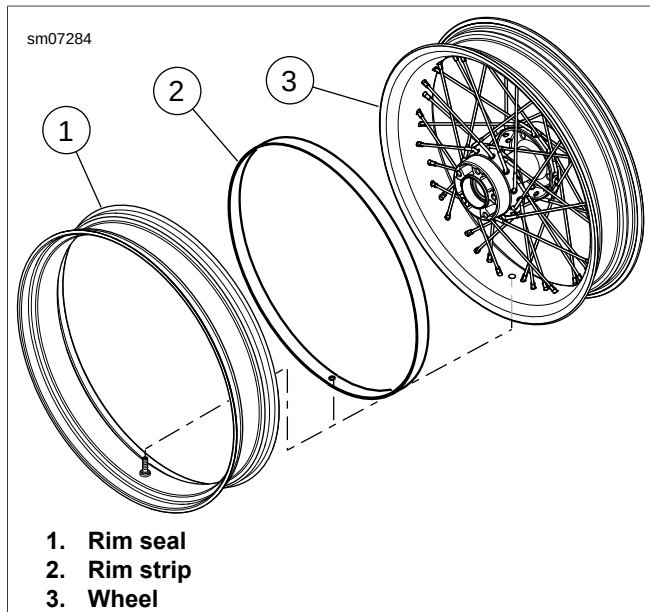

Figure 2-34. Tubeless Wheel and Seal
1. See Figure 2-34. Install a **new** rim strip (2) and rim seal (1).